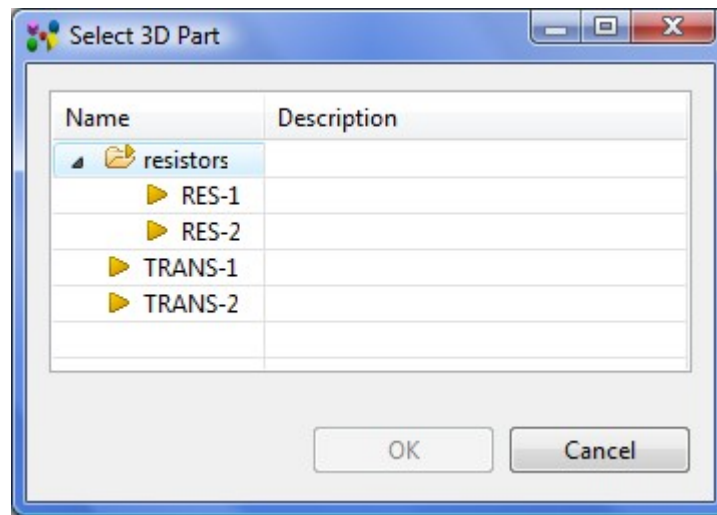

Figure 3. Select 3D Part
- Select a 3D part in 3D parts library to be used for this package in generated PCA 3D shape. Double click on the 3D Part column cell. Press on the look up button. The **Select 3D Part** appears on the screen (see Figure 3):